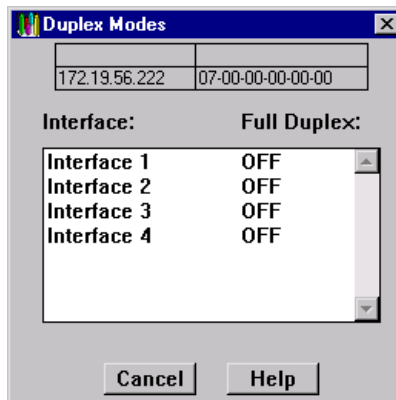

Figure 5-2. The Duplex Modes Window
2. Drag down to **Duplex Mode(s)...**, and release. The Duplex Modes Window, Figure 5-2, will appear.